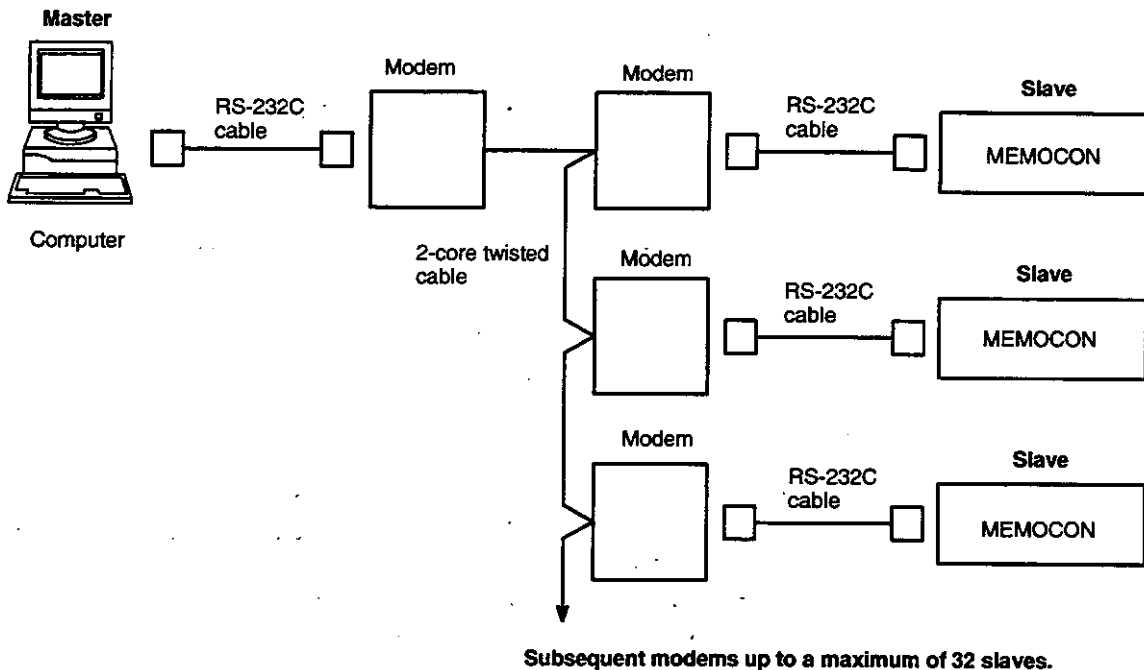

Figure 2.3 Typical 1:N MEMOBUS Configuration Connected by Modems
2) Figure 2.3 shows an example of a master and multiple slaves configuration connected by modems.